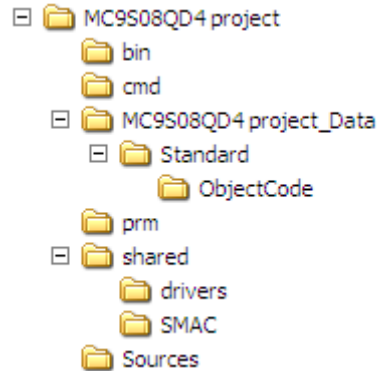

Figure 4. MC9S08QD4 Project Structure
- Go to the path where the MC9S08QD4 project is stored and create the same three folders. See Figure 4.